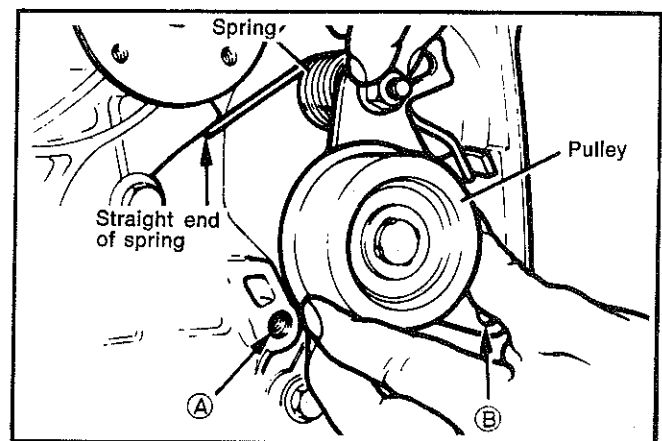

Fig. 50—Tensioner spring location
- (3) Attach the other end of the spring to the hook of the tensioner. Install the tensioner to the stud and then install the washer and flange nut. Position the tensioner to align the hole 'B' with the hole 'A' (Fig. 50), and install the retaining bolt. Position the tensioner towards the water pump and temporarily tighten the flange nut.